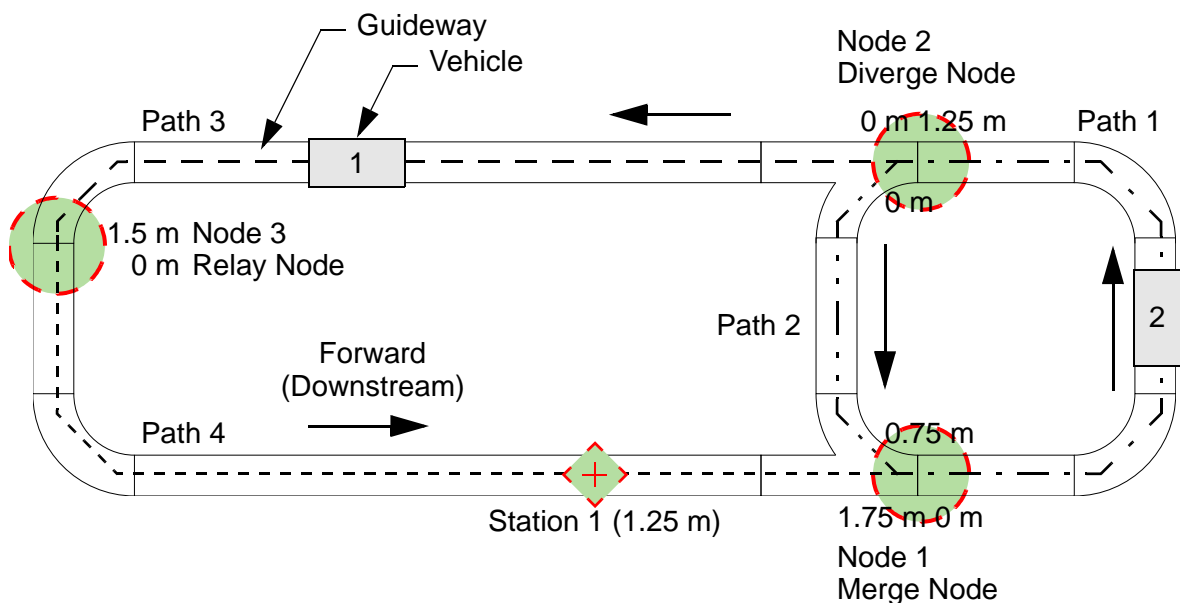

Figure 2-2: Transport System for Motion Examples
- A. For Vehicle 1 in Figure 2-2 to reach the beginning of path 3 it moves from path 3 to path 4, from path 4 to path 1, then from path 1 to path 3. Vehicle 2 must move out of the way for Vehicle 1 to complete its motion.
- B. For Vehicle 1 in Figure 2-2 to reach the beginning of path 2 it moves from path 3 to path 4, from path 4 to path 1, then from path 1 to path 2. Vehicle 2 must move out of the way for Vehicle 1 to complete its motion.
- A. For Vehicle 1 in Figure 2-2 to reach the beginning of path 3 it moves directly to that position.
- B. For Vehicle 1 in Figure 2-2 to reach the beginning of path 2 it moves from path 3 to path 1, from path 1 to path 2, then to the beginning of path 2. Vehicle 2 must move out of the way for Vehicle 1 to complete its motion.
- A. For Vehicle 1 in Figure 2-2 to reach the beginning of path 3 it moves backwards directly to that position.
- B. For Vehicle 1 in Figure 2-2 to reach the beginning of path 2 it moves forward from path 3 to path 4, from path 4 to path 1, then from path 1 to path 2. Vehicle 2 must move out of the way for Vehicle 1 to complete its motion.
To create a platoon, move the following vehicle into position behind the lead vehicle using a MMI_vehicle_position_order tag. The following example (see Figure 2-2 for the system layout) shows the following vehicle being positioned. The command is accepted, and the command is completed once the vehicle stops moving. The table represents the MMI_vehicle_position_order message.